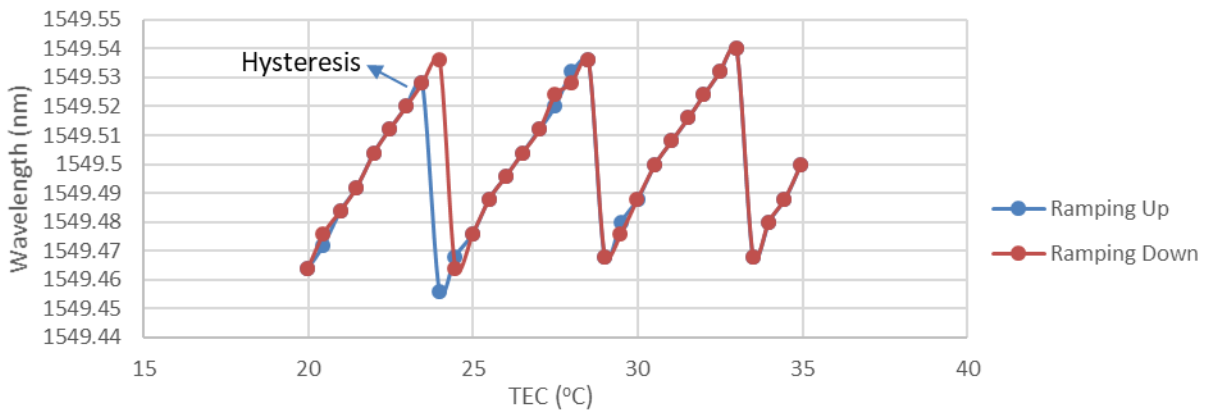

Figure 1. Wavelength vs. TEC temperature characteristics with very small hysteresis region.
1.1 The DL-CLS product when properly applied is mode-hop-free. DL-CLS101B-S1550 laser requires specific setup to achieve best performance. Please review this application note, the datasheet, and the Out Going Report (shipped along with the unit) before setting up and testing the laser. Each laser has a recommended TEC temperature* set point which is indicated in the OGR. The recommended TEC temperature has to be maintained to provide optimal performance. Typical wavelength vs. TEC temperature characteristics at case temperature equal to 25oC are presented in Figure 1.
Figure 1 shows a very small hysteresis in wavelength vs. laser temperature characteristics, when compared to other manufacturers, who have large hysteresis. During initial setting, some spectral distortions may be observed (e.g. double peak or low SMSR). This is an indication that the temperature is outside of the recommended range. This initial setting has to be done manually using this application note and the OGR as a guideline. Alternatively, the customer can also purchase DenseLight’s BF9 product series to have this laser operate at its best performance. As long as the TEC is tuned to the recommended value, a single longitudinal mode spectrum with excellent power and wavelength stability can be achieved when the laser is biased, as can be seen in the next section.